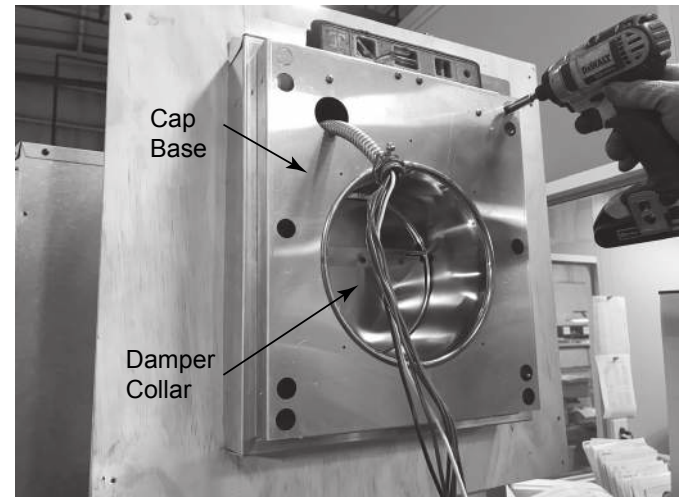

Figure 7.16
- Position the cap base on exterior wall, level, and secure with (4) screws provided. When properly installed, the damper collar must extend into the wall shield a minimum of 1-1/2 inches. See Figure 7.16.